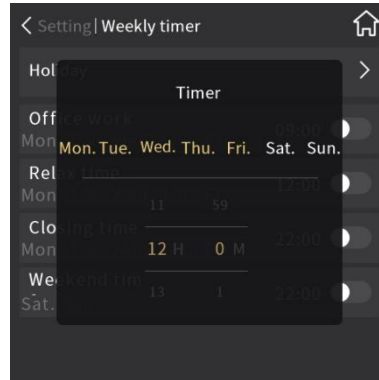

Fig.2.11.12
②① By touching the middle position of this area to pop up window as shown in Fig.2.11.12;
As shown in Fig.2.11.12, when there is no holiday added, the interface displays “No holiday timing setting, please add”.